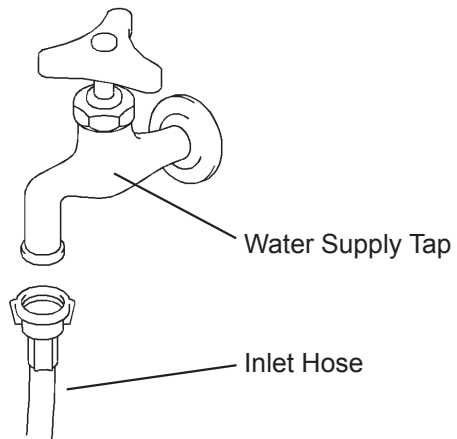

Fig. 7
- 1) Attach the free end of inlet hose to the water tap (Fig. 7), noting washer is correctly positioned before hand tightening as above. It is a wise precaution to have a stop valve within easy reach.